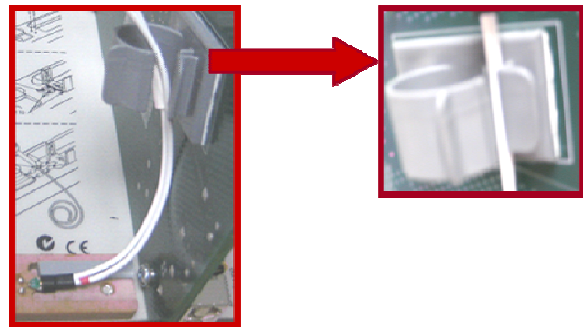

Figure 5: P75TLRST Secured in the Clamp
5. Push the pins through the solder box and rotate the P75TLRST so that it is on the opposite side of the solder box as shown in Figure 5. Secure the cable of the P75TLRST in the slot in the clamp.